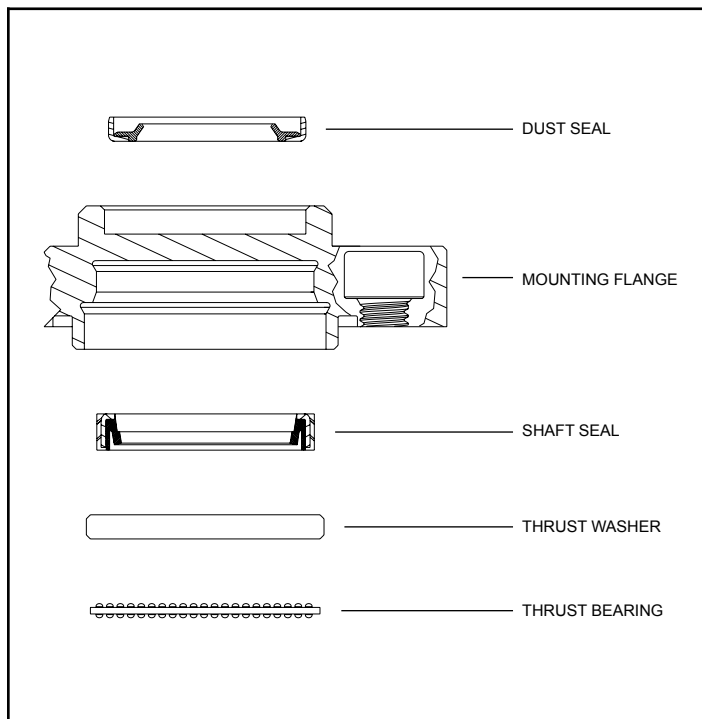

FIGURE 1 - MOUNTING FLANGE / SHAFT STACK UP
- D)** Carefully press shaft seal (3) into place in mounting flange (7) and place thrust bearing (5) and thrust washer (6) onto shaft if they were removed earlier. See Figure 1 for shaft stack-up orientation. Place a new mounting flange seal (2) into groove in mounting flange. Line up flange bolt holes and lower mounting flange assembly over shaft. *Be careful not to nick shaft seal (3) on shaft keyway or pinch the flange mounting seal (2).*
- E)** Install three flange mounting bolts (19) hand tight and final torque bolts to 12 ± 1 Nm [106 ± 9 lb-in].
- M)** Install new shaft seal (3) into recess in mounting flange on the same side as the mounting flange seal groove and press evenly until it rests against the stop. See Figure 1 for correct seal orientation.
- N) Install new flange mounting seal (2) into groove in mounting flange (7). Place housing (8) in a vise with the side with three holes facing up. Line up the bolt holes and place mounting flange on top of housing (8). Install the three flange mounting bolts (19) hand tight then final torque bolts to 10 ±1 Nm [88.5 ±9 lb-in].
- O) Install new dust seal (1) into groove in mounting flange with lip facing up and seat against stop. See Figure 1 for correct orientation. Remove the mounting flange / housing assembly from vise, turn the assembly upside down and resecure in vise.
- P) Install a new body seal (6) into groove in housing (8). Place new thrust washer (4) followed by new thrust bearing (5) into housing cavity making sure both are laying flat against shaft seal (3). Lower shaft (17) into housing cavity. Using a rubber mallet tap the shaft (17) until it flush with with housing surface.